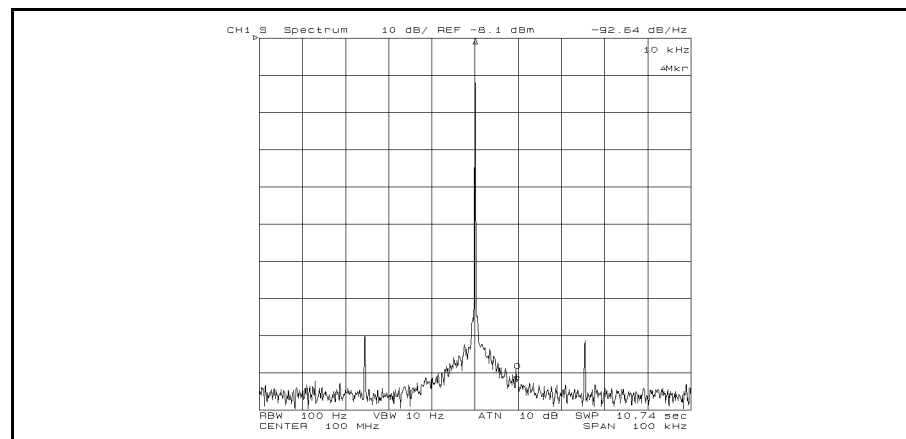

Figure 4-4.
5. Press **[Utility]** **NOISE FORM** on **OFF** to **ON** off. The analyzer displays the C/N ratio with the unit of “dB/Hz” at the upper right of the display as shown in Figure 4-4.